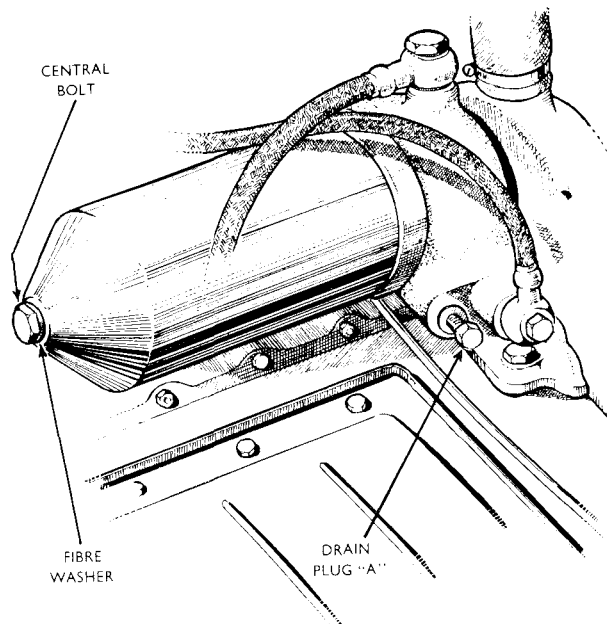

Figure 6
Changing the Engine Oil is preferably carried out after a good run when the oil is warm and flows freely. The sump plug is on the left hand side of the sump (see Fig. 3) easily accessible from the front of the car. When carrying out this operation allow sufficient time for the oil contained in the oil cooler to drain into the sump and drain the oil contained in the filter into the sump by unscrewing the oil filter drain plug (A) (see Fig. 6) until approximately $\frac{1}{4}$ in. of thread is exposed.
Replacing Oil Filter Element. First unscrew the drain plug "A" (see Fig. 6) until about $\frac{1}{4}$ in. of thread is showing which will allow oil in the filter to drain back into the sump. Remove the filter body and element by unscrewing the central bolt—this cannot be removed but is lifted away with filter element and body. In lifting these away, take care to tilt the body (open end highest) slightly to prevent any oil remaining inside from spilling on to the top of the engine. Clean the filter body thoroughly in petrol and allow to dry.